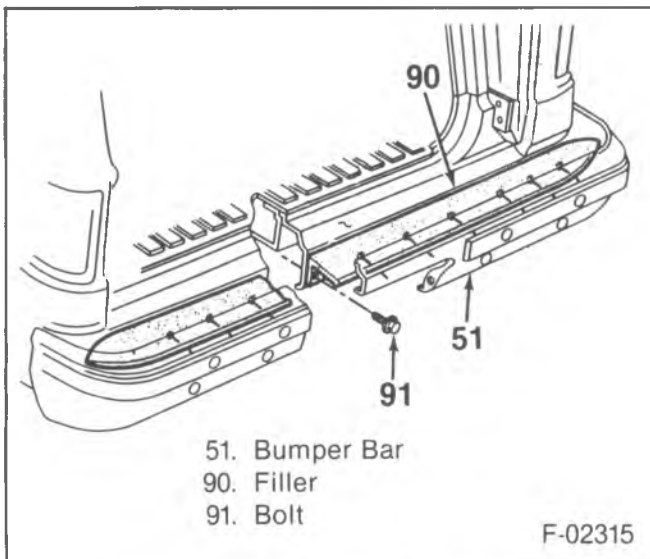

Figure 10—Rear Bumper Center Filler
6. Filler panel (Suburban only) (figure 10).